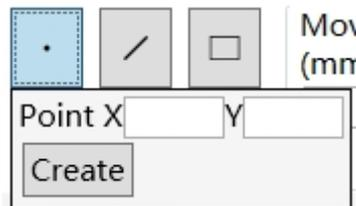

Fig. 4.3.1c Coordinate Creation Points
② Right-click to open the point coordinate input window, enter the X and Y coordinate values, and click "Create" to draw a point at the corresponding position, as shown in Fig. 4.3.1c.